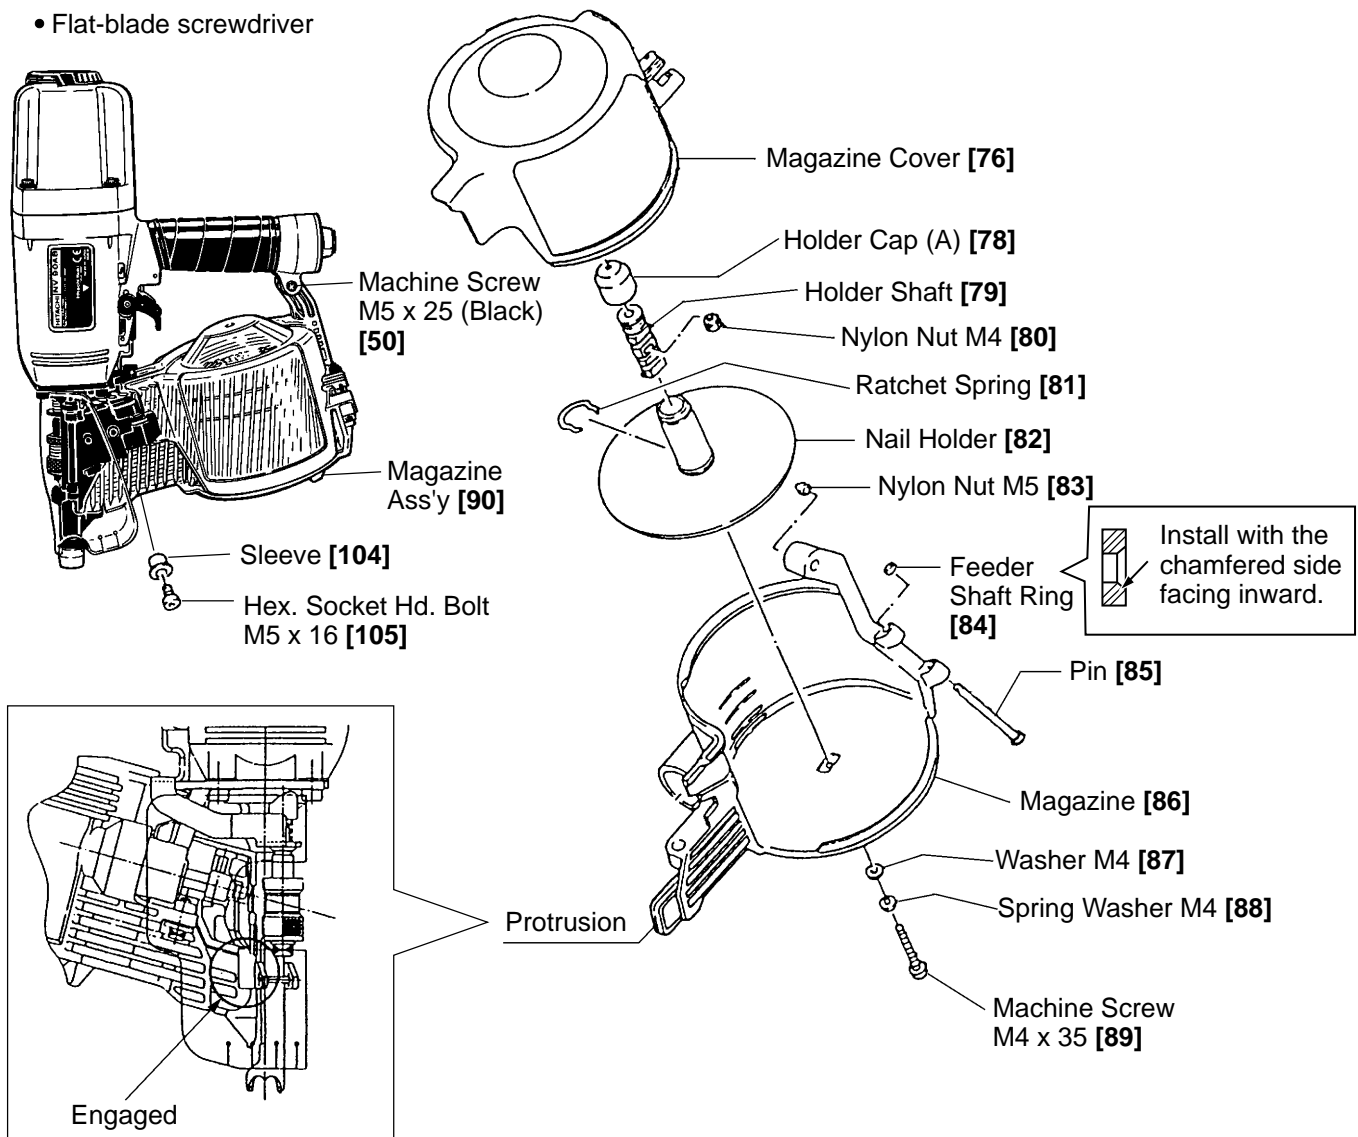

Fig. 15 Disassembly and reassembly of the magazine section
(1) Disassembly and reassembly of the Magazine Ass'y [90] (See Fig. 15)
- Mount the Feeder Shaft Ring [84] facing the chamfered side inward as shown in Fig. 15.
(2) Disassembly and reassembly of the Holder Shaft [79], Nail Holder [82] and others (See Fig. 15)